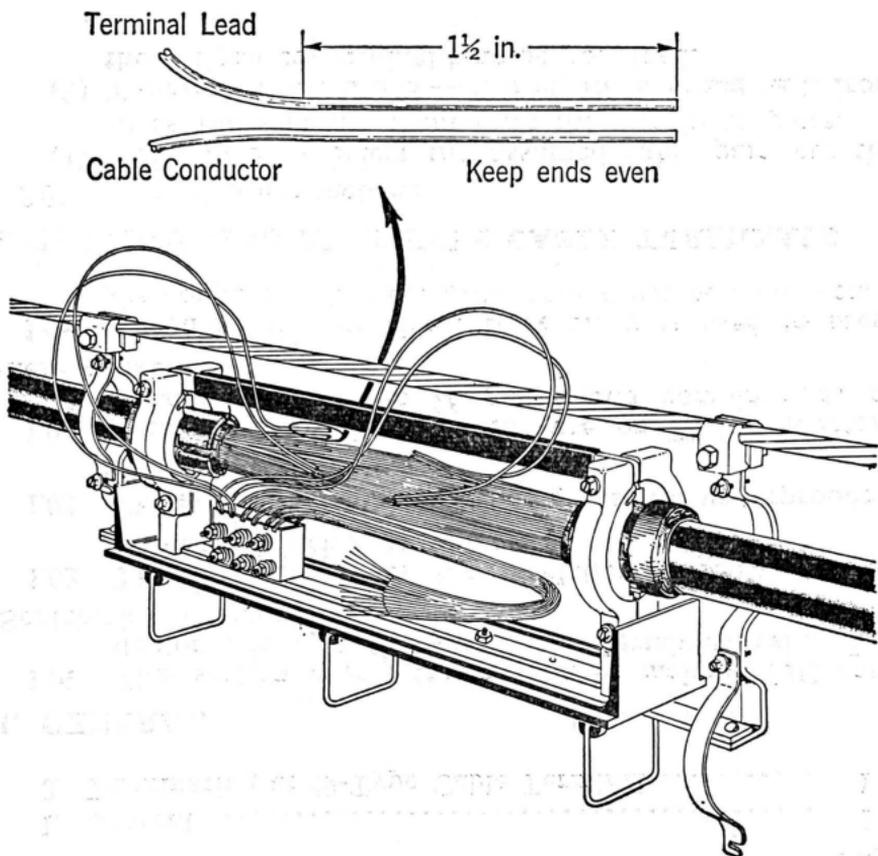

Fig. 1
- (1) Form the ends of the two conductors to be joined and keep them even for a distance of 1-1/2 inches as shown in Fig. 1.